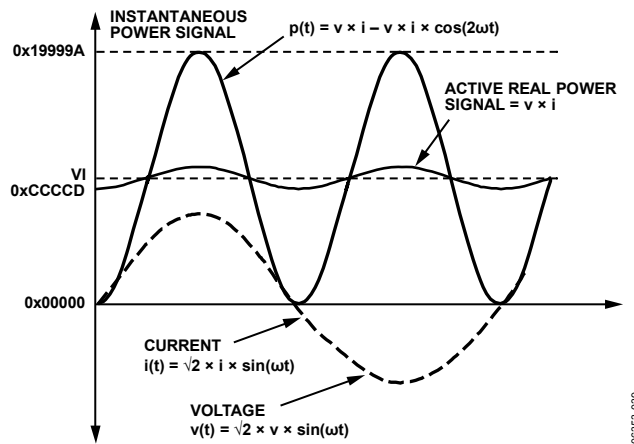

Figure 63. Active Power Calculation
Note that the active power is equal to the dc component of the instantaneous power signal $p(t)$ in Equation 11, that is, VI . This is the relationship used to calculate active power in the ADE7566/ADE7569/ADE7166/ADE7169. The instantaneous power signal $p(t)$ is generated by multiplying the current and voltage signals. The dc component of the instantaneous power signal is then extracted by LPF2 (low-pass filter) to obtain the active power information. This process is illustrated in Figure 63.
The ADE7566/ADE7569/ADE7166/ADE7169 also incorporate an active power offset register (WATTOS[15:0]). It is a signed, twos complement, 16-bit register that can be used to remove offsets in the active power calculation (see Figure 63). An offset can exist in the power calculation due to crosstalk between channels on the PCB or in the IC itself. The offset calibration allows the contents of the active power register to be maintained at 0 when no power is being consumed.
As mentioned in the Active Energy Calculation section, the discrete time sample period (T) for the accumulation register is $1.22 \mu\text{s}$ ($5/\text{CLKIN}$). With full-scale sinusoidal signals on the analog inputs and the WGAIN register set to 0x000, the average word value from each LPF2 is 0xCCCCD (see Figure 63). The maximum positive value that can be stored in the internal 49-bit register is 2^{48} (or 0xFFFF,FFF,FFF) before it overflows. The integration time under these conditions when $\text{WDIV} = 0$ is calculated in the following equation: